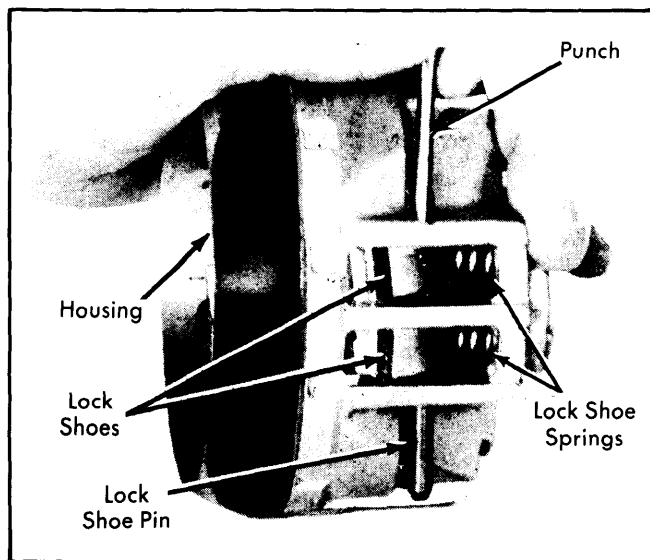

Fig. 12 Removing Lock Shoe Pin
14) Using a punch, drive out lock shoe pin (see Fig. 12). Compress lock shoe spring to release spring tension on pin. Disconnect steering shaft. Remove shaft through upper end of column.